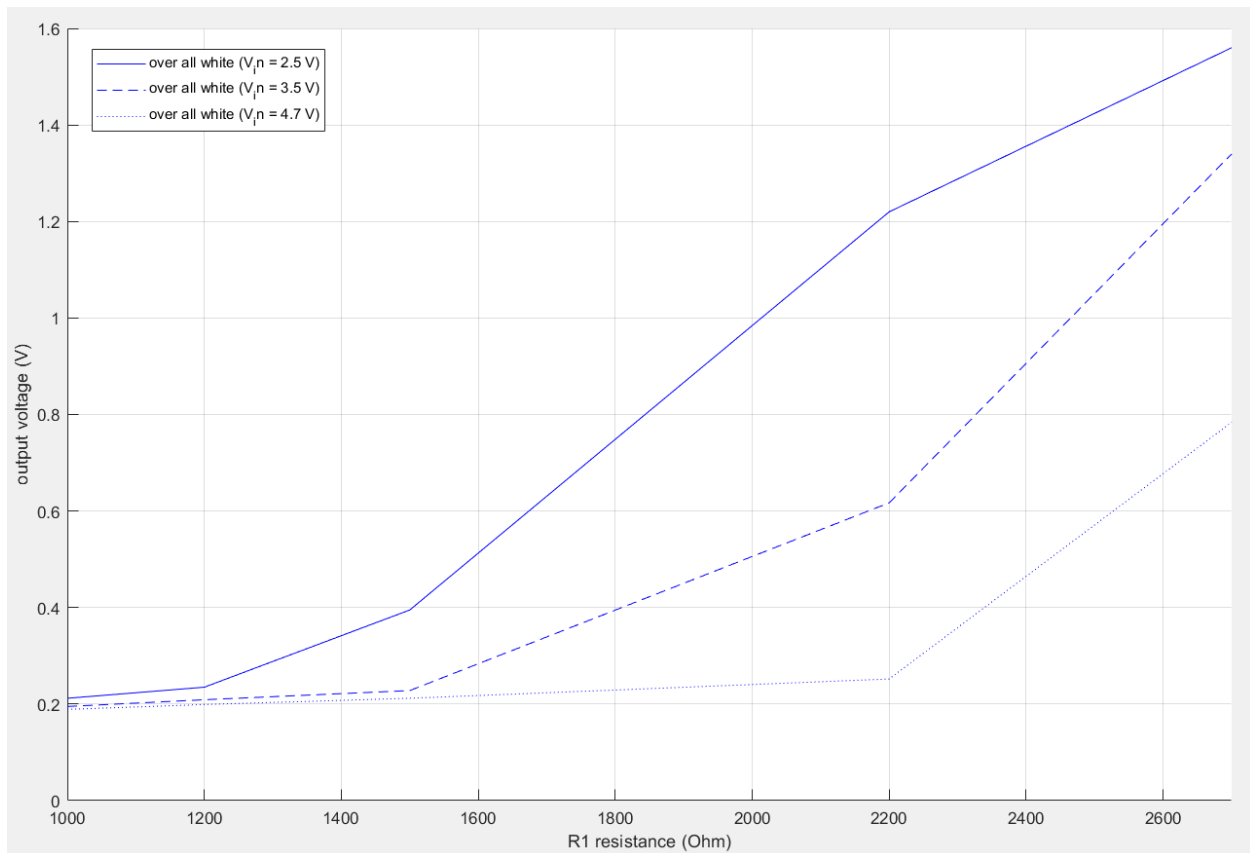
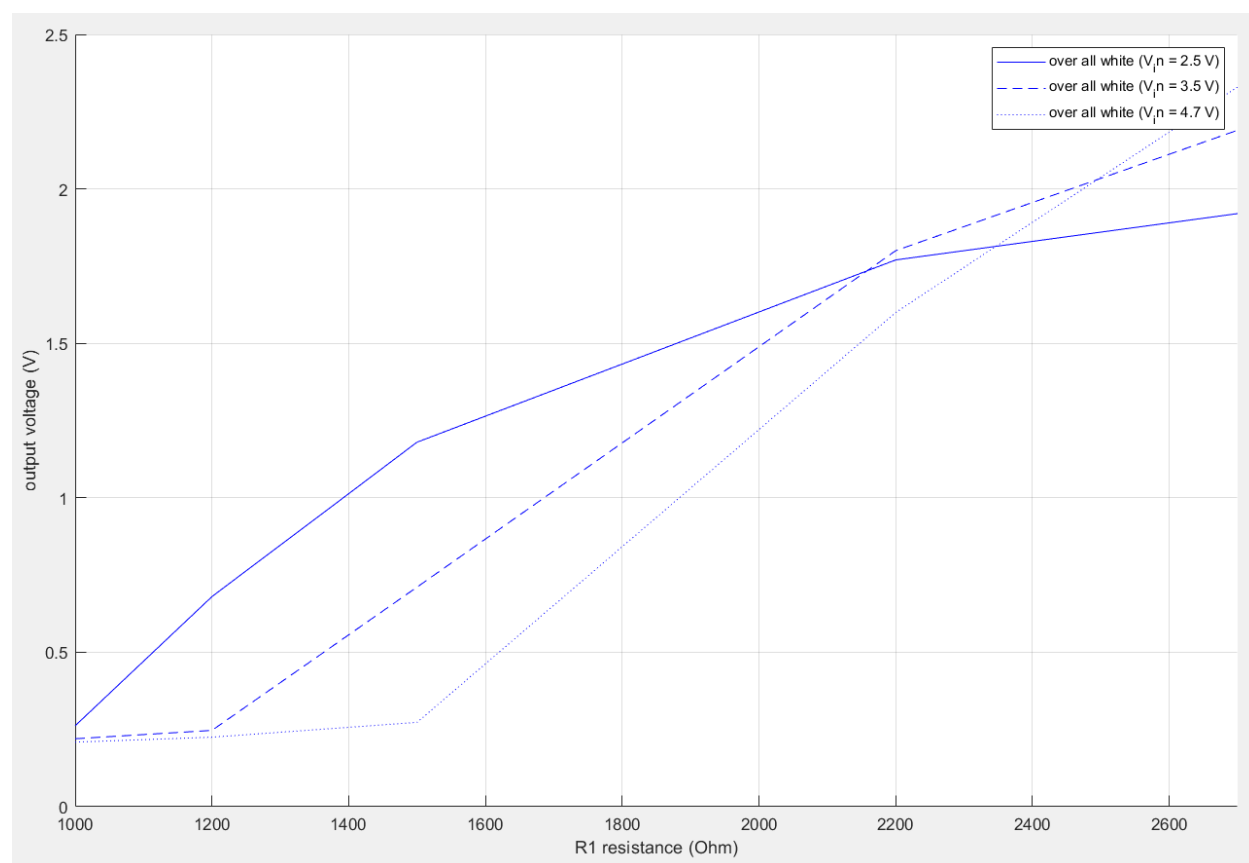

Figure 16 Output voltage dependence on value of R1. R2 = 220 kOhm, height = 2 mm.
Figure 17 Output voltage dependence on value of R1. $R_2 = 220 \text{ kOhm}$, height = 4 mm.
- **CON** if value of R1 is too large sensor unit might get too dim and reading over all white will be close or the same as over all black (see Figure 16)
- **CON** sensed object must be close to the sensor. If value of R1 works for distance of 2 mm (see Figure 16) it might not work for distance of 4 mm (see Figure 17).